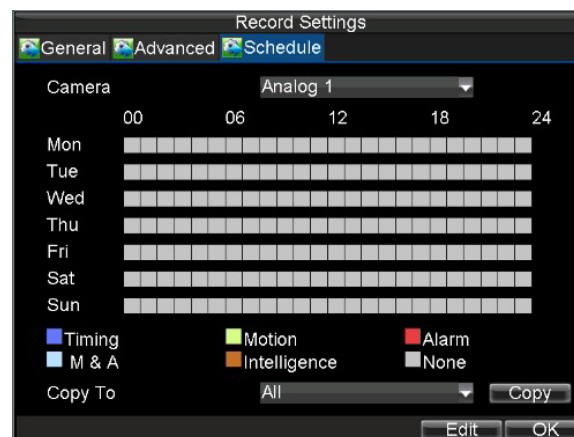

Figure 10. Schedule Settings
- 3) Select the **Schedule** tab, shown in Figure 10.